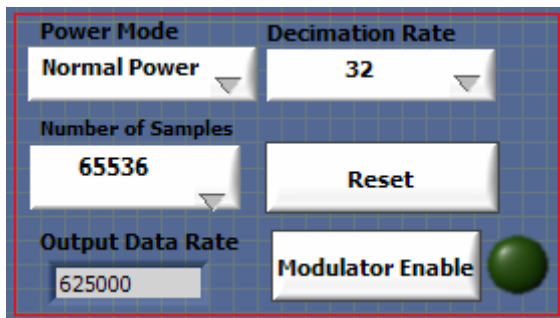

Figure 8. Power, Number of Samples, Decimation Rate and Modulator Mode Control buttons.
6. The AD7760 or AD7762 device will power up in a default decimation setting of 32. Change the Decimation Rate setting by clicking on the Decimation rate drop down control as shown in Figure 8. This allows the user to vary the over sampling rate and implement the five (for
To enter Modulator mode click the “Modulator Enable” button as shown in Figure 8. When in Modulator Mode the green indicator light beside the control button will be asserted.